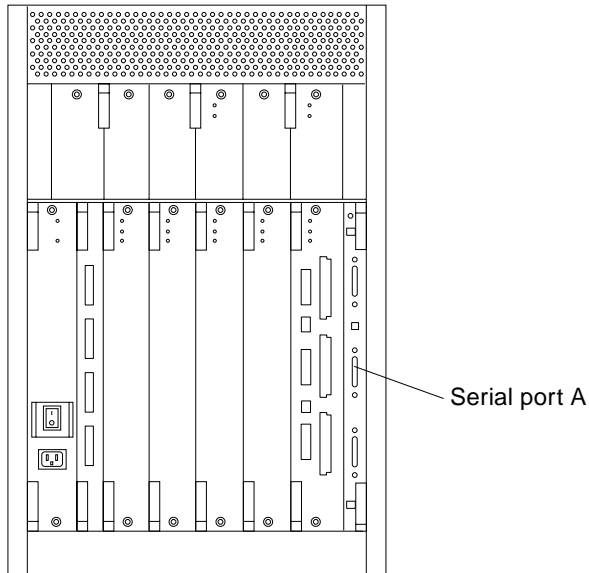

FIGURE 2-8 Clock+ Board
1. Connect the terminal cable into serial port A on the clock+ board (FIGURE 2-8).